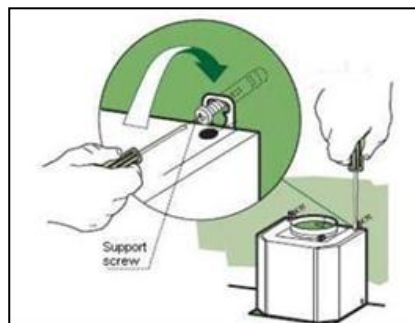

Fig. 9
- Fix the hood body to wall using 2(two) ST5 x 25 screws provided. Tighten screws firmly. Note: Adjust the hood body alignment if necessary (Fig. 9).
### Aligning the hood body (if necessary) (Fig. 9)